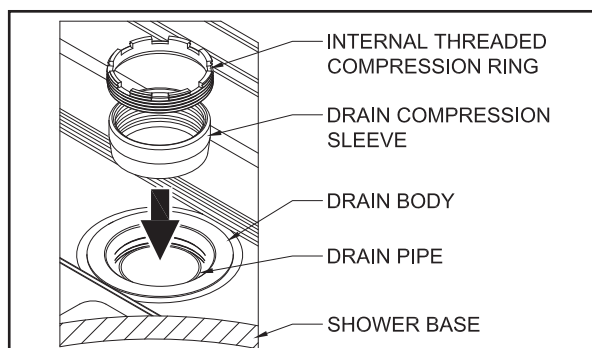

FIG. 7- FINAL DRAIN ASSEMBLY
5. Once securely set, finish installing the Drain Assembly (**SEE FIG. 7**). Lubricate the drain pipe and Drain Compression Sleeve, slide the Sleeve over the pipe, and tighten the Compression Ring to seal the drain. Make sure the drain seals properly to prevent leaking.